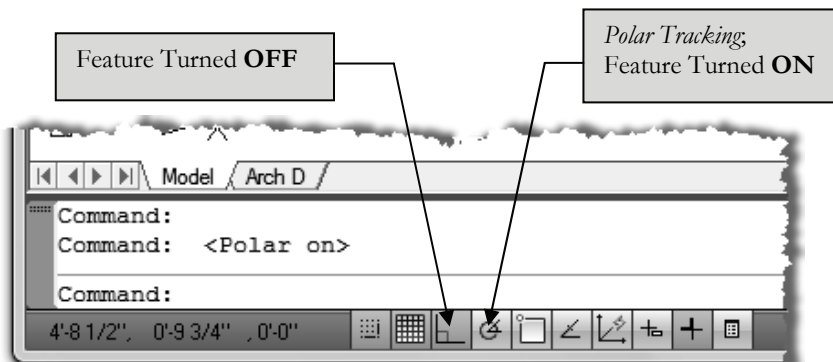

FIGURE 2-1.9 Status Bar – shown with Polar (i.e., Polar Tracking) turned on.
14. On the *Status Bar*, make sure **Polar Tracking** is turned on. (Figure 2-1.9). *It should have a bluish background.*